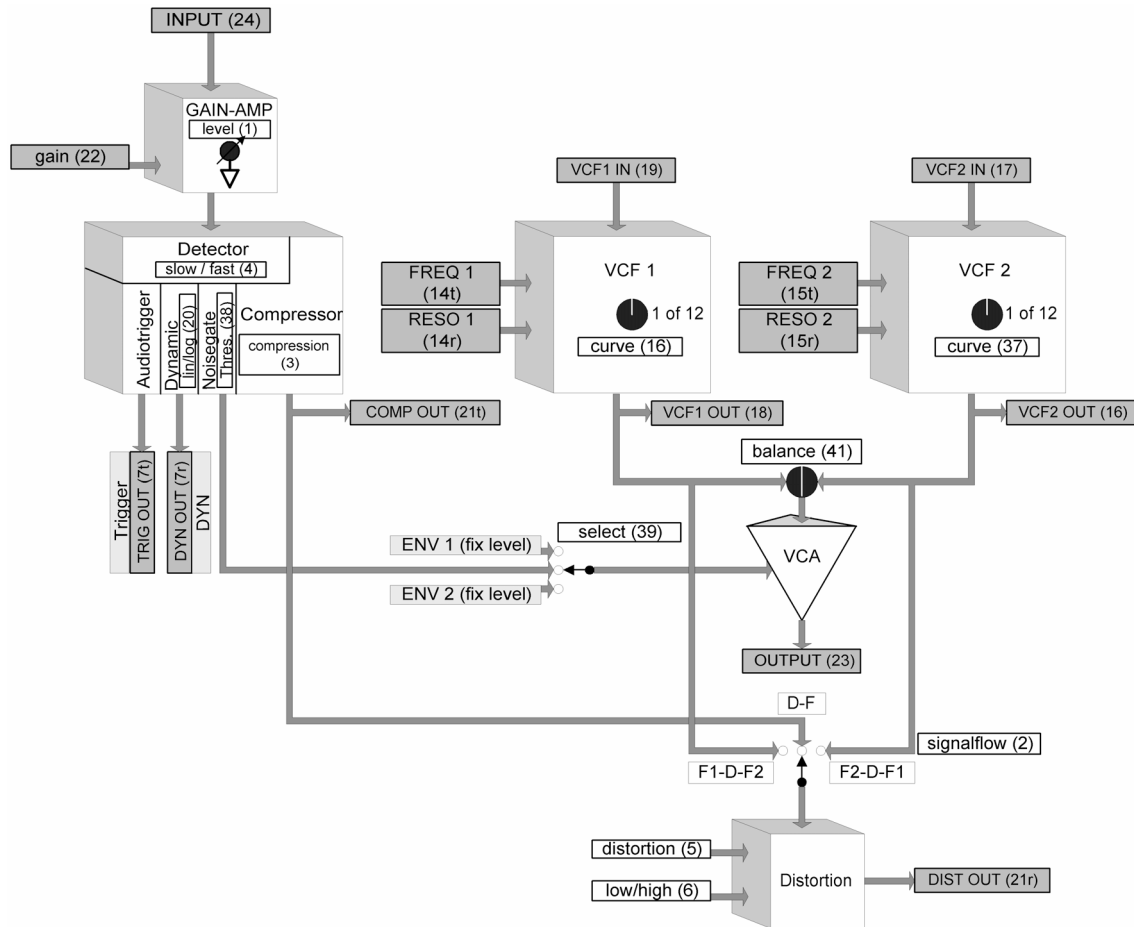

Fig. 7.3.1 Modular structure of the audio processing
Fig. 7.3.1 shows a block diagram of the audio-modules as modular blocks. For better clarity, most of the filter-controls are hidden. Concerning the audiopaths, the figure is almost complete. Invisible is the internal wiring of both filter inputs via [signalflow]-toggle-switch (2) and their connection to the output of the distortion unit. (see chapter 8.3).
**Please note!** If a VCF is fed from an external audio input ("IN VCF1" (19) or "IN VCF2" (17)) on the rear-panel, the internal routing to its input is disconnected! In case that e.g. both filters are fed via their external inputs, the [signalflow]-switch would only determine if the outputs of the three modules **compressor**, **VCF 1** or **VCF 2** provide the input signal for the **distortion** unit (see also fig. 7.3.1). This means a high routing-flexibility of the **distortion** unit, because of its separate output.